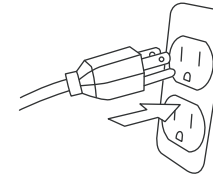

Fig.11
- 4 The AC indicator turns green, plug in device plug (see Fig.11).